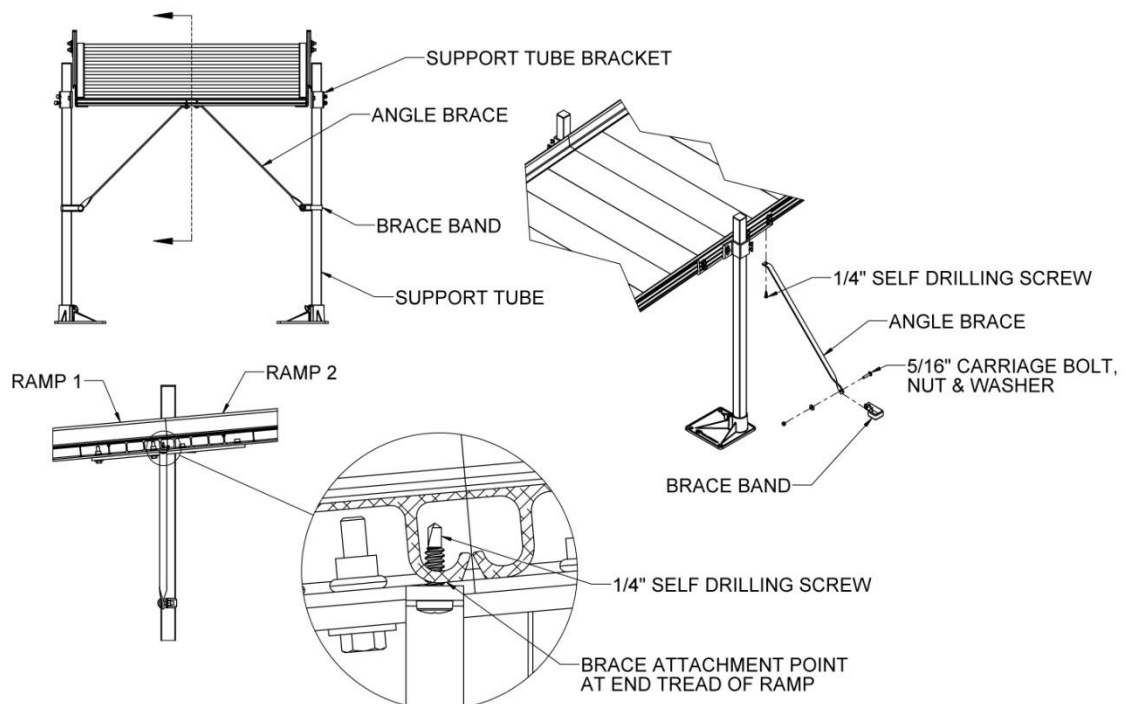

FIG 3.9
3.3.7. If the ramp walking surface is over 36" high, an MUAB (UNIVERSAL ANGLE BRACE) must be installed under the ramp (FIG. 3.9).